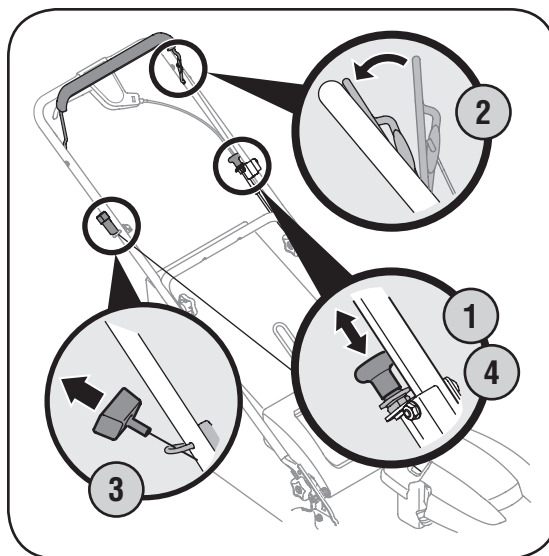

Figure 4-2: Starting the mower.
1. Pull out the choke knob located on the left side of the upper handle, Figure 4-2.
2. Standing behind the mower, squeeze and hold the blade control against upper handle, Figure 4-2.
3. Pull the recoil starter lightly until resistance is felt, then pull rapidly to overcome compression, prevent kickback, and start the engine. Repeat if necessary, Figure 4-2.
4. When engine warms up, push in the choke knob, Figure 4-2.